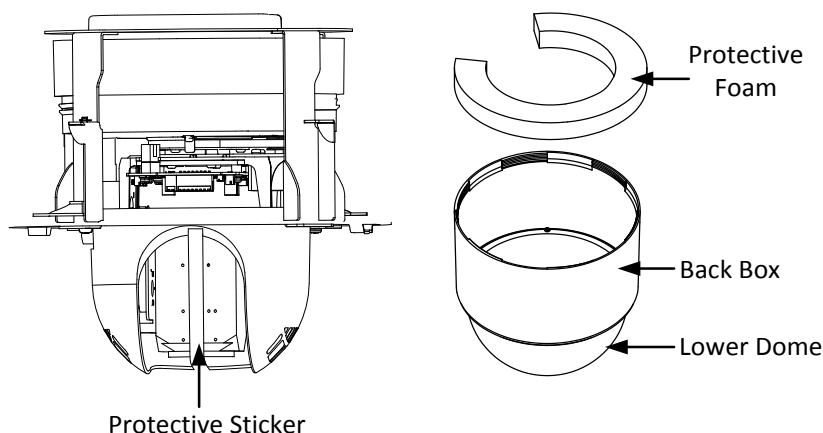

Figure 2-5 Remove the Protective Accessory
1. Rotate the lower dome counterclockwise to separate it from the back box. Refer to the Figure 2-5.